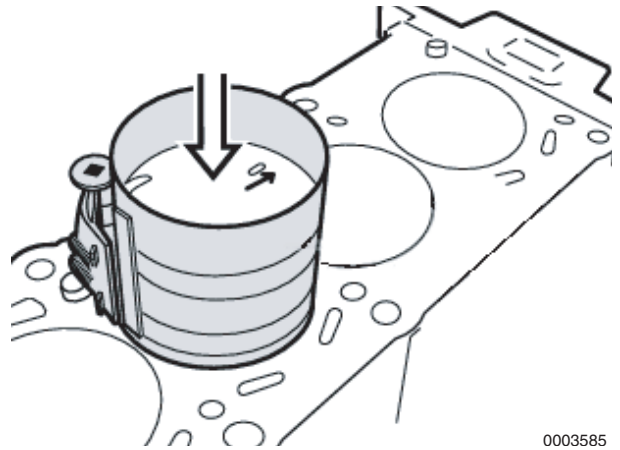

Figure 5-59
8. Carefully install the connecting rod and piston so that the arrow on the piston points toward the front end of the engine (**Figure 5-59**).